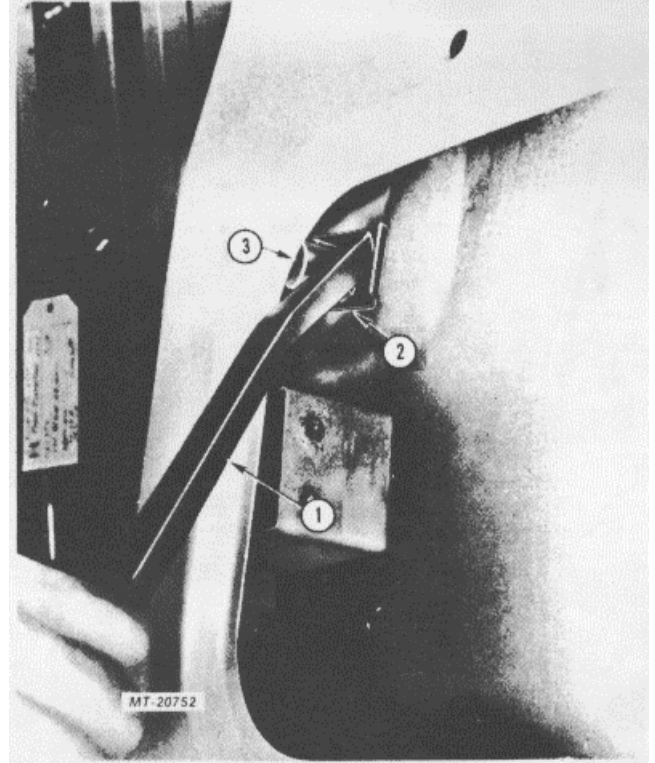

Fig. 25. Removing Lock Cylinder Retainer
3. Working through door access opening pry lock retainer from lock cylinder assembly (Fig. 25) with a small pry bar or screwdriver .
Lock cylinder retainer can be removed without removing glass rear run channel. Channel removed in Fig. 25 for clarity.